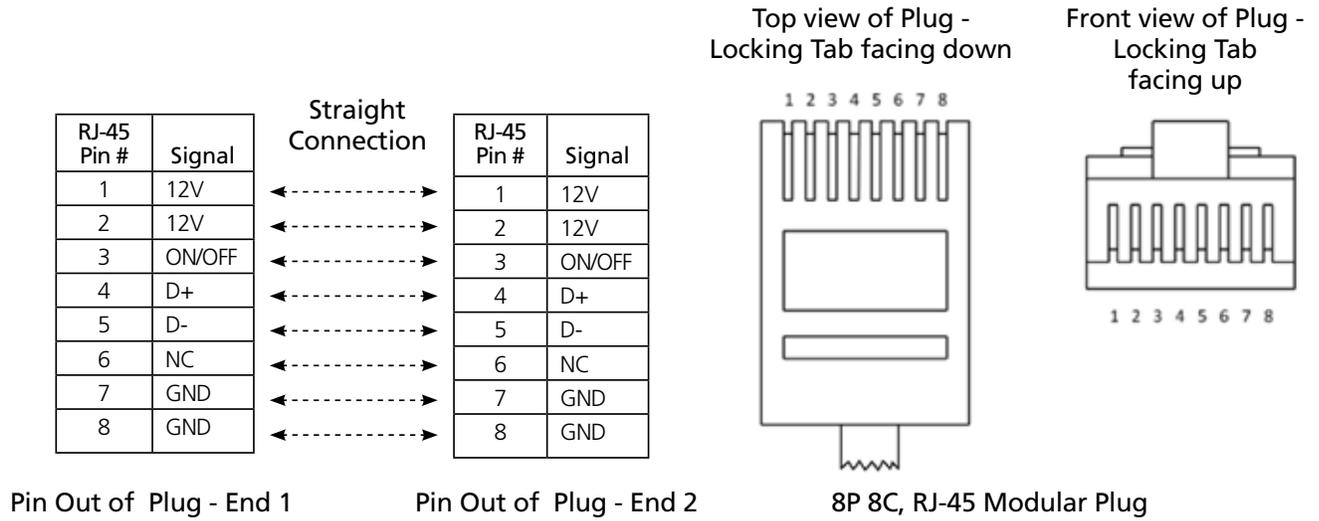

Fig 1.2 Pin Out of Plugs for 8P8C, RJ-45 Connecting Cable
- Plug interconnection: Straight (*See Pinout at Fig 1.2*)